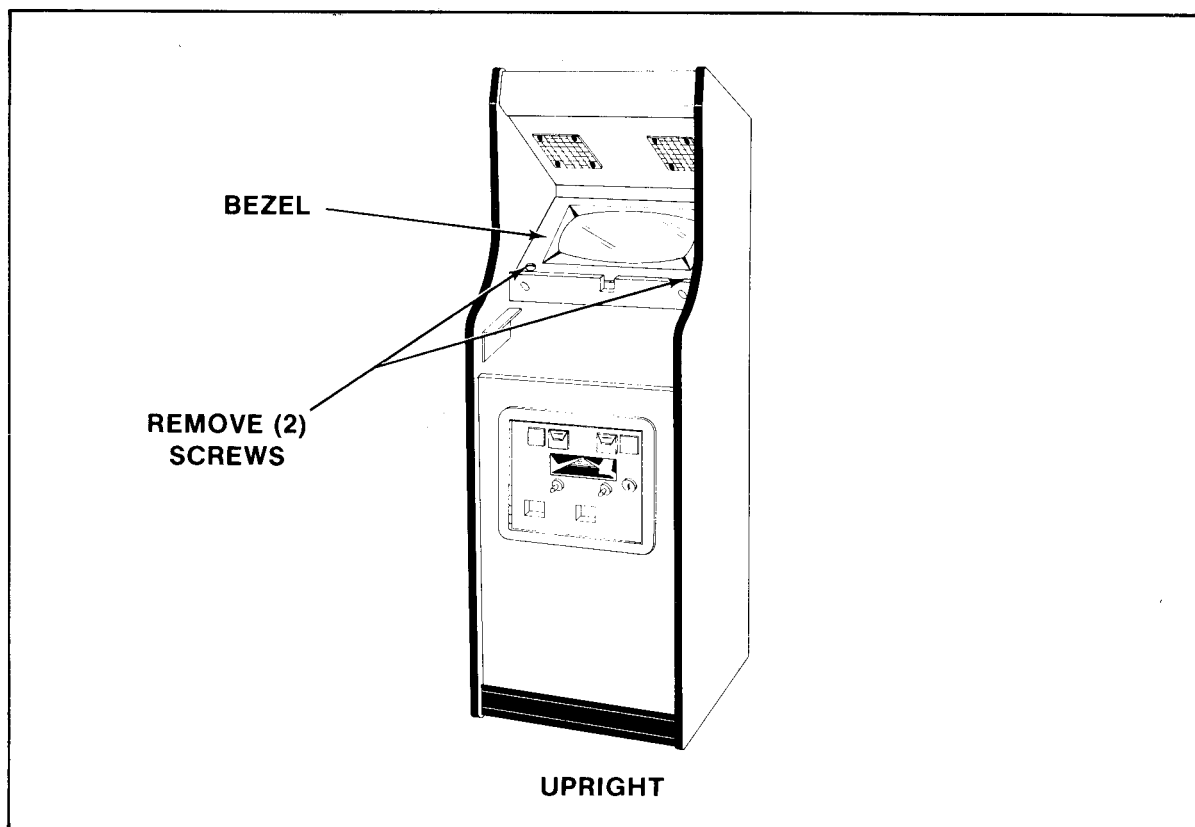

FIGURE 25
- Remove the screws which secure the T.V. bezel assembly, see Figure 25, and lift it out.